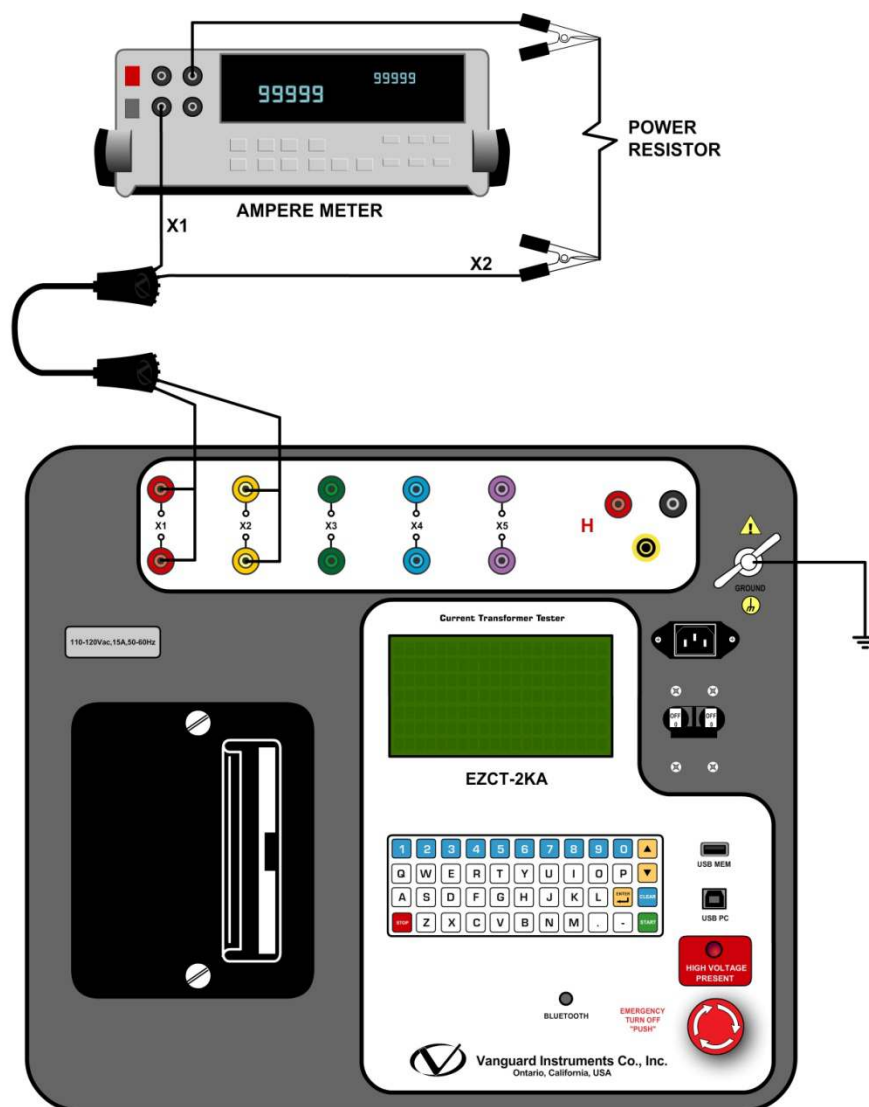

Figure 21. EZCT-2KA I_x Verification Test Connections
- Connect the X cables to a power resistor and an RMS ampere meter as shown in Figure 21.